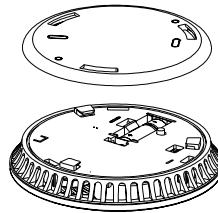

Figure 5
- 1, Hold down the base counterclockwise rotation of the base (Figure 5);